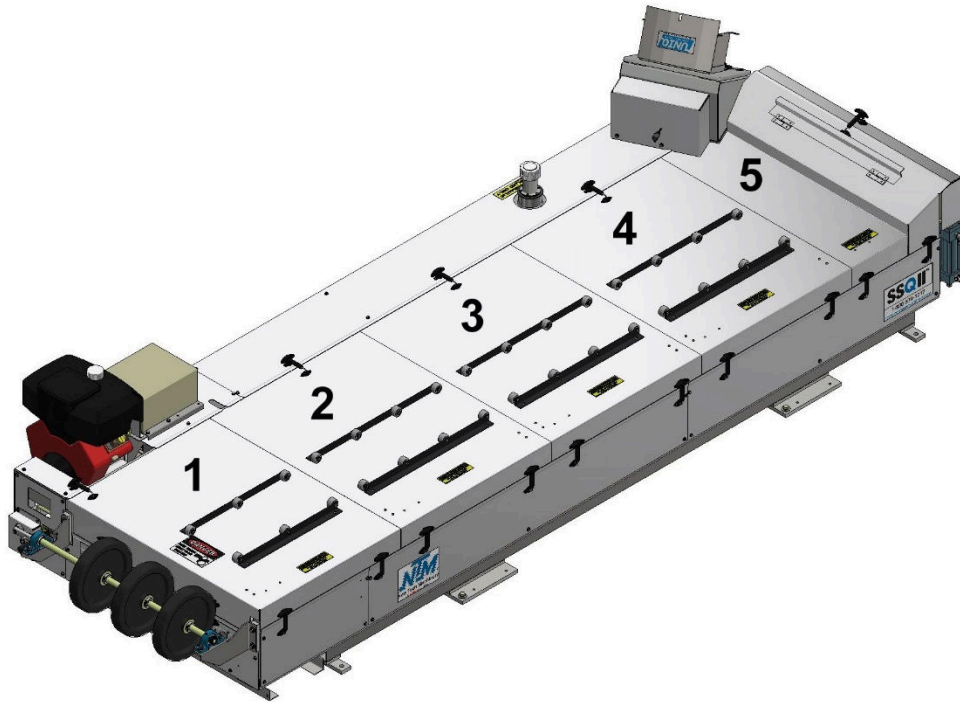

Figure 55: Top Cover Removal
1. Remove Top Covers #1, 2, 3, 4, and 5 (Figure 55) and the shear guard and set them aside.
1. Remove Top Cover #1, 2, 3, 4, and 5 (see Figure 55 on Page 63) and set aside.